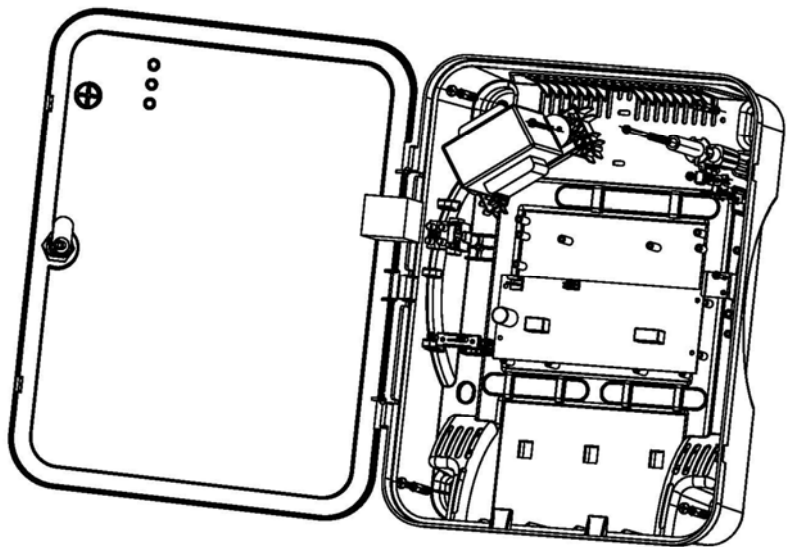

Figure 32: ME-12 Wall Mounting
4. Mount the ME-12 onto the wall as shown in Figure 32, on page 43